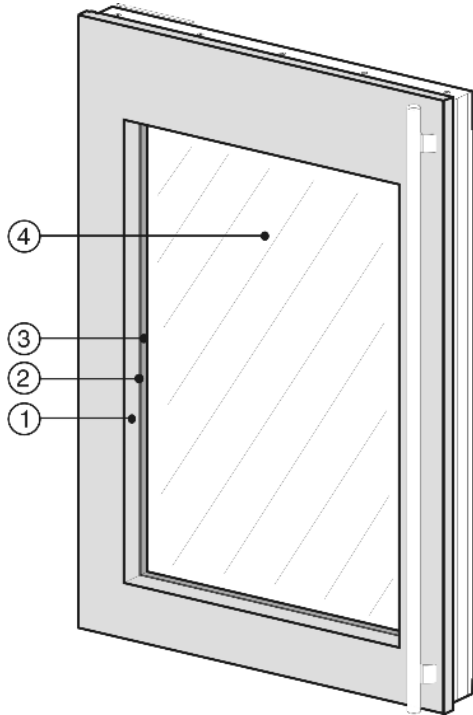
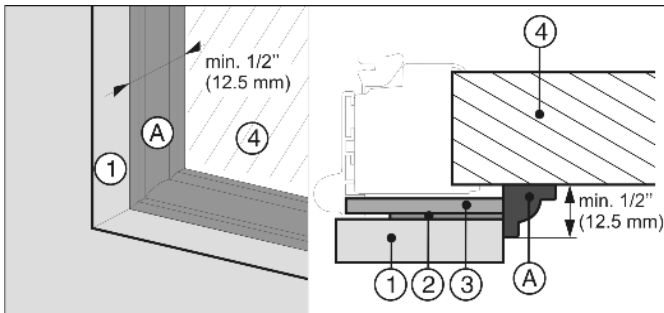

Fig. 23
Fig. 24
- (1) Overlay panel
- (2) Spacer panel
- (3) Backer panel
- (4) Glassed area
The edges of the panels Fig. 23 (1,2,3) are visible at the transition to the glass window Fig. 23 (4). It can be covered with a decorative molding Fig. 24 (A) for esthetic reasons.